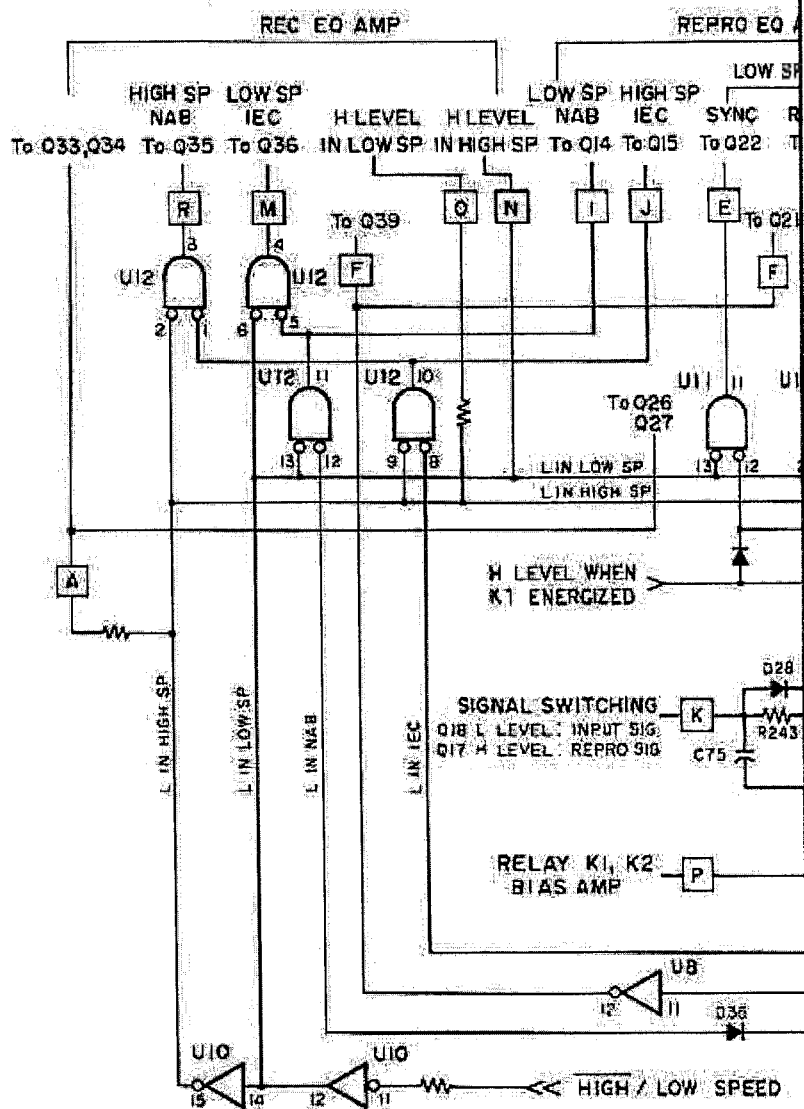

Fig. 8-10-3
Refer to Fig. 8-10-3, Amplifier Control Circuit.
- c) Next, when the record mode is released, the REC SIG applied to input pin 6 of U9 (pin 4, 5, 6) (see Fig. 8-10-3) goes high and logic control signal **[P]** goes low. This causes
put pin 13 of U9 (pin 11, 12, 13) goes high. As input pin 13 of U9 goes high, its output pin 11 goes low, and, consequently, output pin 15 of U8 (pin 14, 15) (shown in Fig. 8-10-3) goes high. This starts the charging to C75, and, after completion of the charging, control logic signal  $\overline{K}$  becomes high.